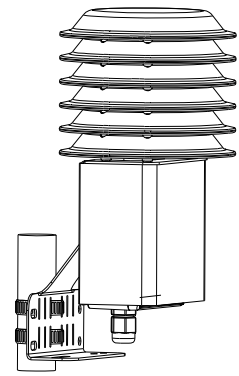

Fig.4
4. If install on a circular or special-shaped cylinder, it should be fixed with a clamp, as shown in Fig. 4. The clamps should be selected separately according to actual needs.